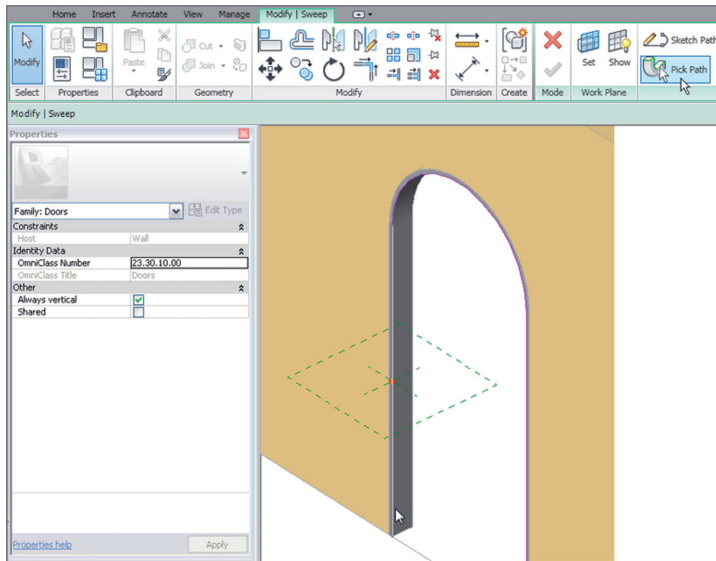

FIGURE BC2.22: Picking the path for the sweep
1. Go to a 3D view (if you aren't there already), and position the view so that it looks like Figure BC2.22.
4. Pick the inside corner of the jamb, starting with the left side (see Figure BC2.22).